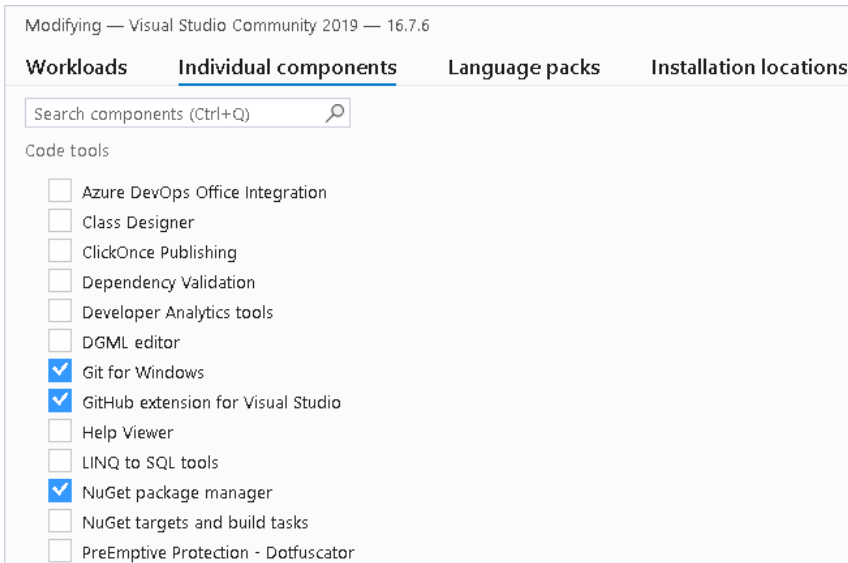

Fig. 4.1 Installing the required components
- ▶ In the **Code tools** section, choose the **Git for Windows** and **GitHub extension for Visual Studio** components – see *Fig. 4.1*.
- ▶ If it is not already installed, also choose the **NuGet Package Manager** (*Fig. 4.1*).